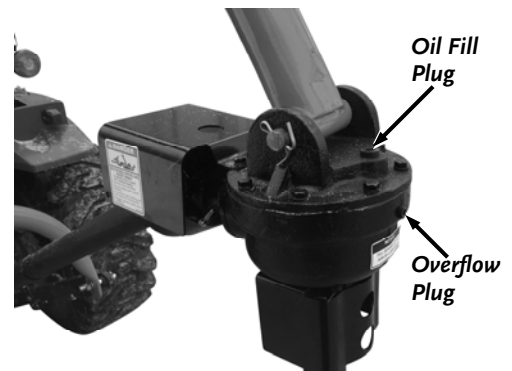

Figure 13
1. Remove the Oil Fill Plug from the top of the Gearbox using a 10mm Allen Wrench (**Figure 13**).